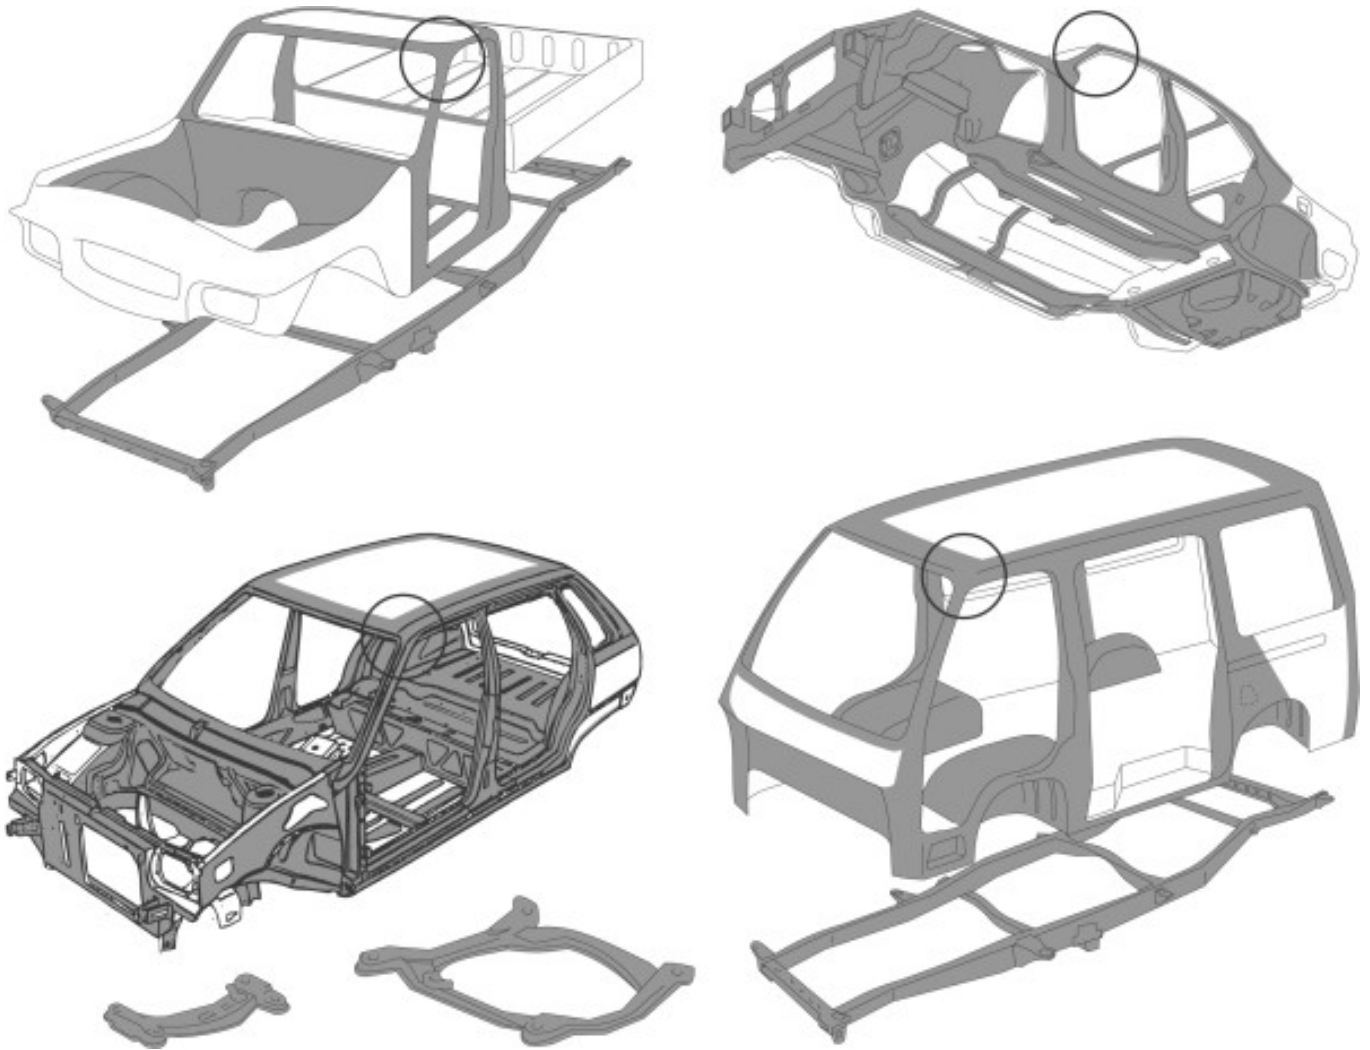

Figure 3-4-3. Hinge and latch anchorage corrosion damage limits
- **Repair** of corrosion on 'bolt on' parts (doors, bonnets etc) within a 150mm circle around the outside of hinge or latch components will require specialist repair certification. These 'no corrosion' zones are circled in Figure 3-4-3